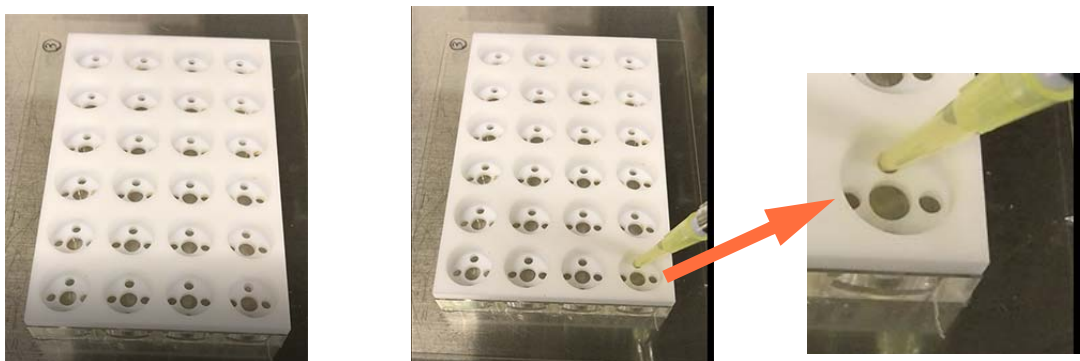

Figure 2-3. Placing the CellSpotter onto the MEA plate (left) and remove pre-coating solution from a well through the side-hole (middle, right).
2. Mount the CellSpotter onto the MEA plate which contains pre-coating solution (Figure 2-3, left).
3. Remove the coating solution from each well in the Presto MEA plate through the side-hole (Figure 2-3, right).